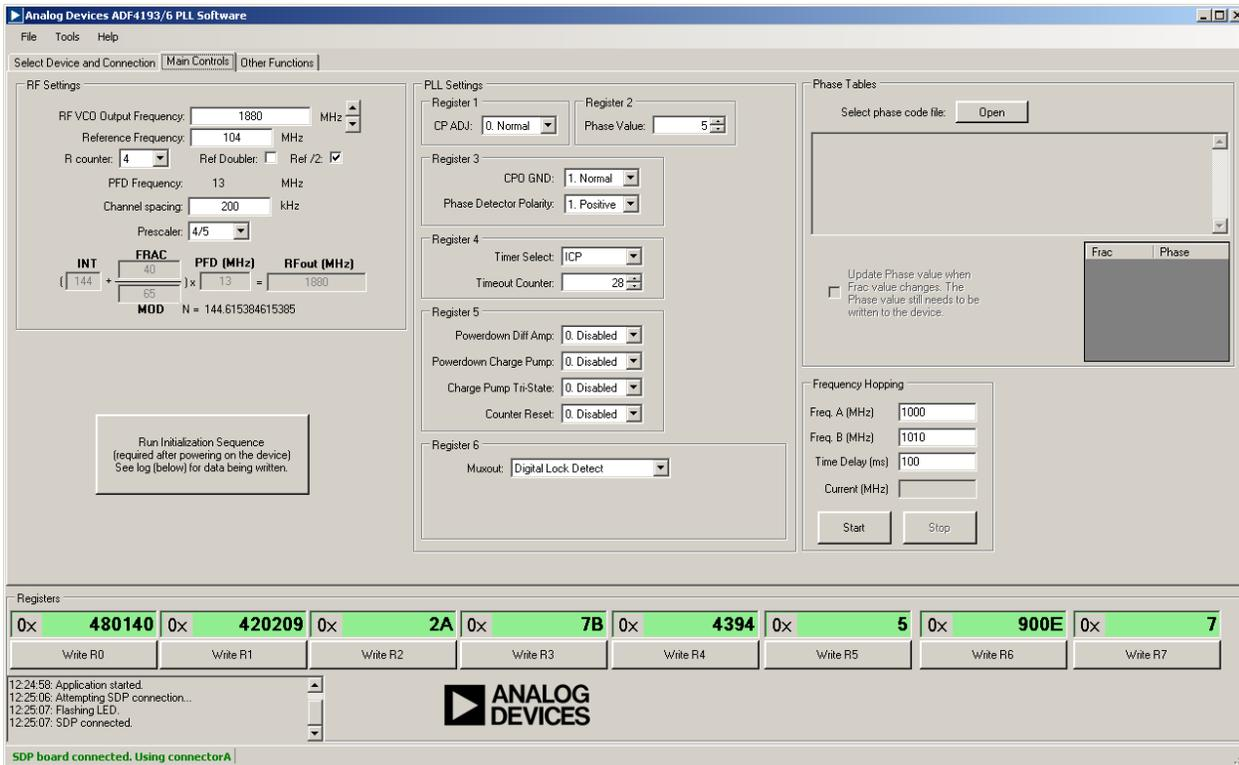

Figure 5. Software—Main Controls
4. Click the **Main Controls** tab to view the main controls (see Figure 5). The default values are set to lock a VCO at 1880 MHz.